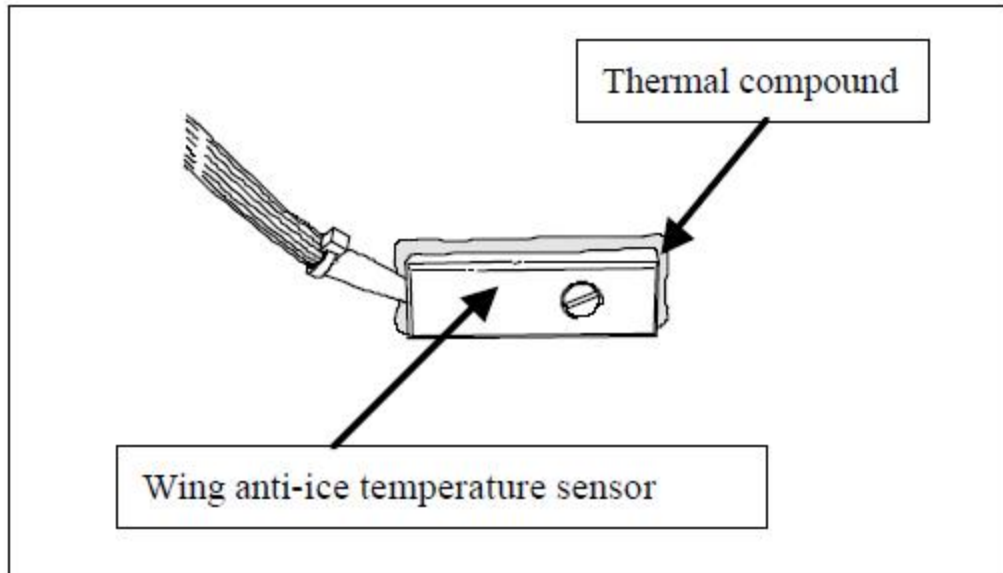

Figure 1. Wing Anti-Ice Temperature Sensor Installation
- When installing a WAITS make sure that an excess of thermal compound squeezes out from around the full perimeter of the sensors. Remove the excess thermal compound; however make sure that a small amount remains visible on all the edges of the sensor. Refer to Figure 1, Wing Anti-Ice Temperature Sensor Installation